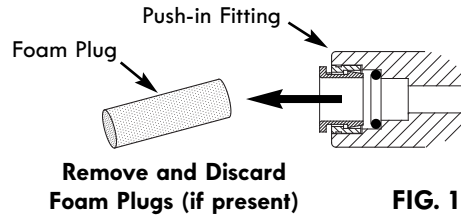

FIG. 1
**NOTE:** Remove foam plugs (if present) before connecting tubes (See Fig. 1). Discard foam plugs.